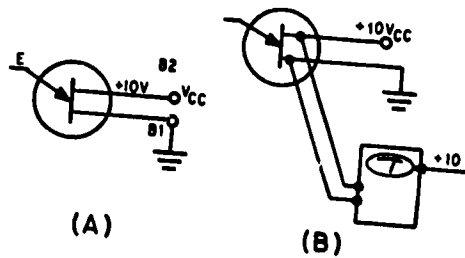
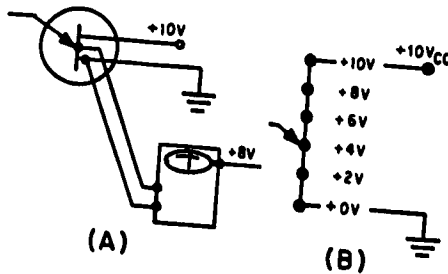

Fig 3-41. UJT biasing.
Fig 3-42. UJT voltage gradient.
The normal bias arrangement for the UJT is illustrated in figure 3-41, view (A). A positive 10 volts is placed on base 2 and a ground on base 1. The area between base 1 and base 2 then acts as a resistor. If a reading were taken between base 1 and base 2, the meter would indicate the full 10 volts as shown in view (B). Theoretically, if one meter lead was connected to base 1 and the other lead to some point between base 1 and base 2, the meter could read some voltage less than 10 volts. This concept is illustrated in figure 3-42, view (A). View (B) is an illustration of the voltage levels at different points between the two bases. The sequential rise in voltage is called a voltage gradient.